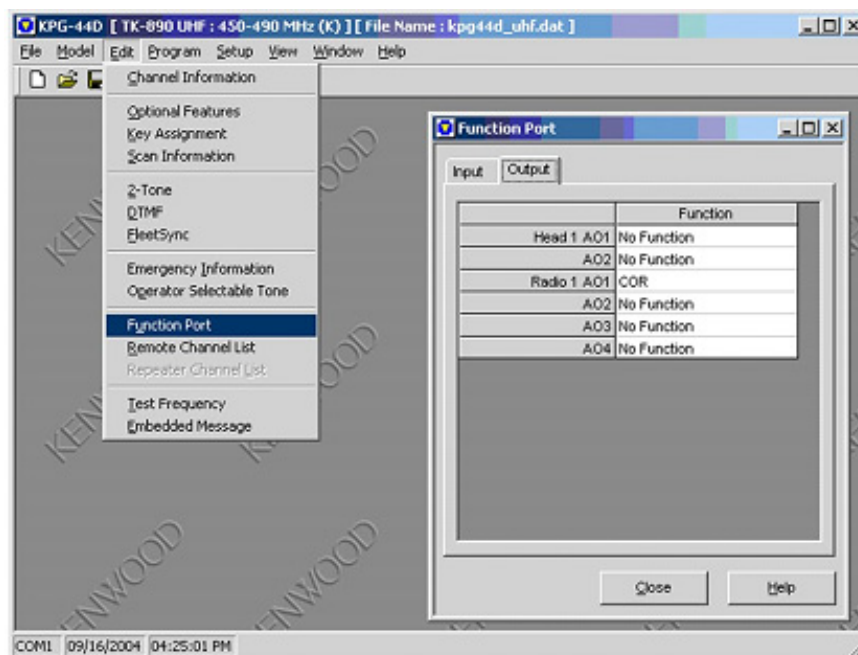

FIGURE 14. TK-x90 Function Port Output
2. Program the **Function Port** window for **COR** in **Radio 1 AO1** (Figure 14).